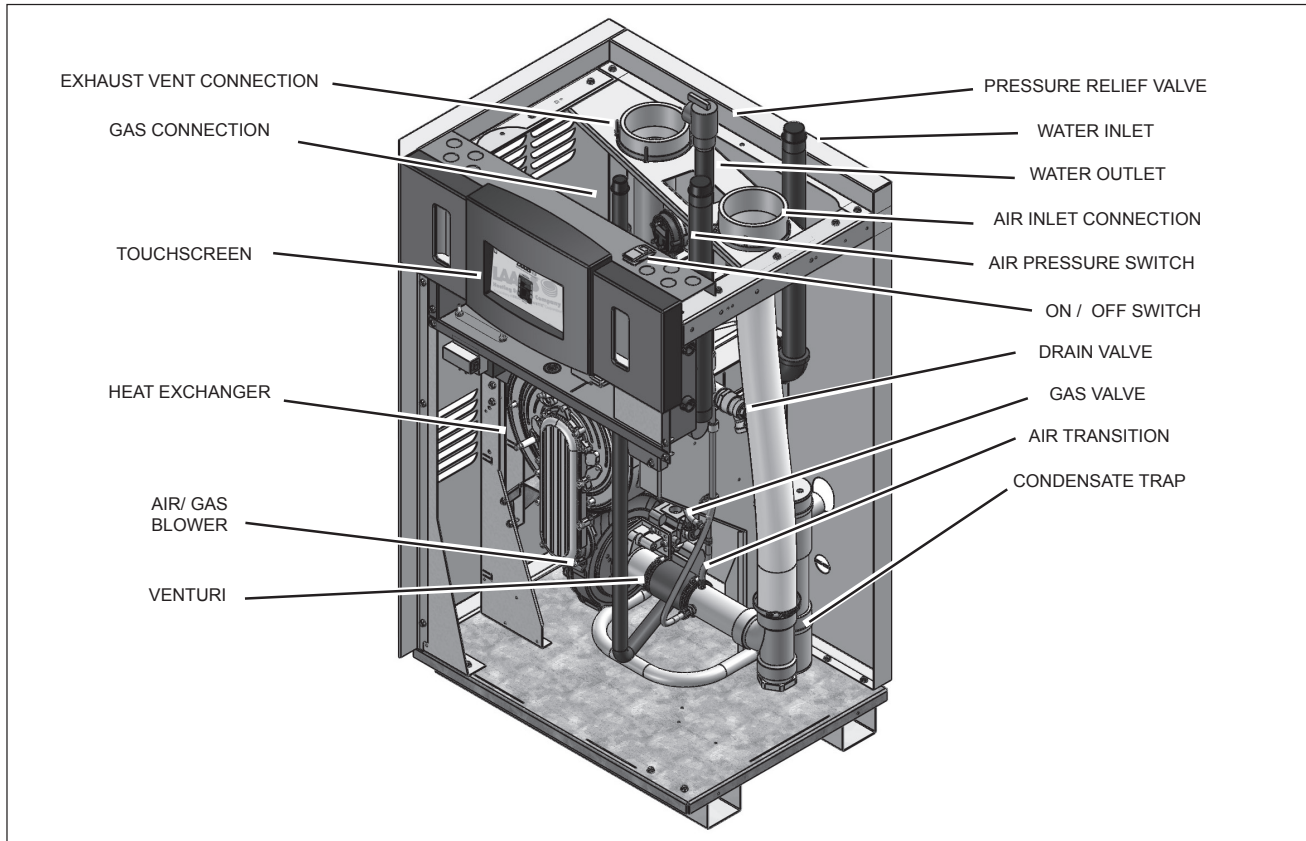

Figure 1. Location of Components, Sizes 150-210
1.3 Appliance Overview - See Figures 1 through 6.